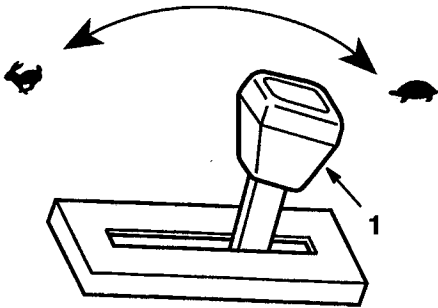

Figure 12
2. Move throttle lever to FAST  position (Fig. 12).